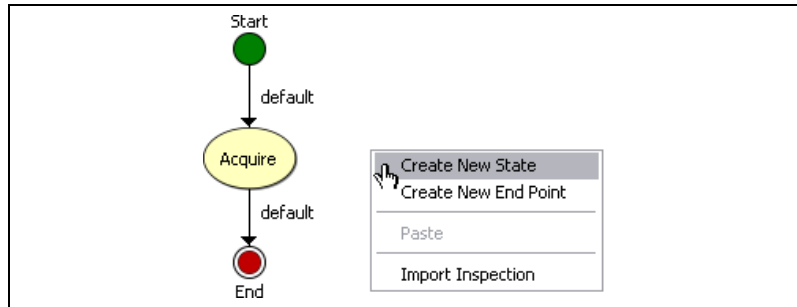

Figure 10-3. Creating a New Inspection State
3. Right-click an open area on the state diagram and select **Create New State** to add a new state to the inspection, as shown in Figure 10-3. The Edit State Name dialog box opens.